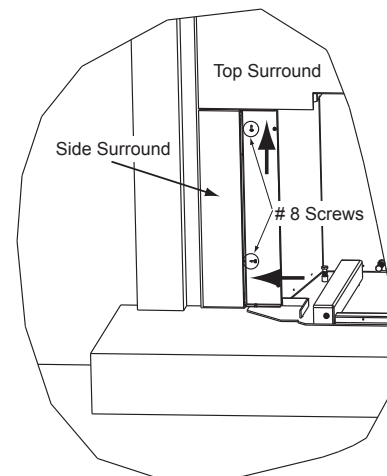

Figure 20.6
6. Install the surround set and trim set to the outer can. Secure the top and side surrounds as shown in **Figure 20.6.**